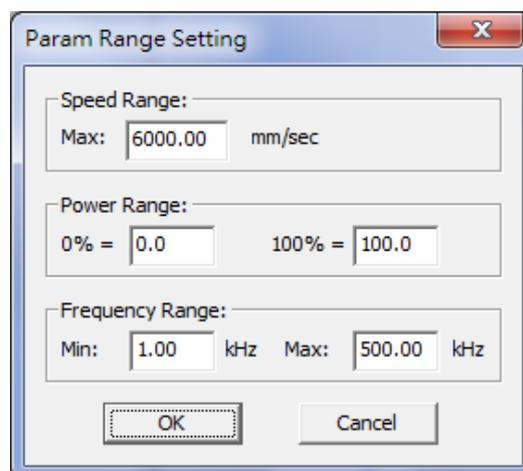

Fig. 3.1.05
**Param Range Setting:** Set the range of speed, power and frequency, see Fig.3.1.05.